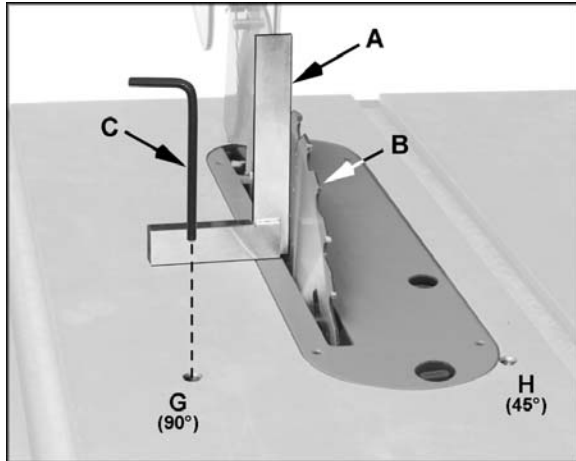

Figure 24
4. Place a square (A, Figure 24) on the table and verify that blade (B, Figure 24) is at 90° to table. Make sure that the square is not touching a blade tooth.
5. Back out the 90° adjust setscrew (G, Figure 24) counterclockwise one or two turns with 4mm hex key (C, Figure 24).
7. Tighten the 90° adjust setscrew (G) until it stops, but do not force.